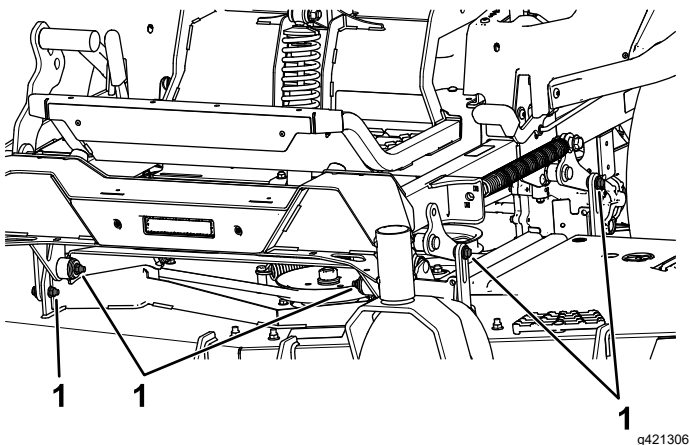

Figure 90
7. Remove and retain the bolts and nuts on both sides of the machine (Figure 90).